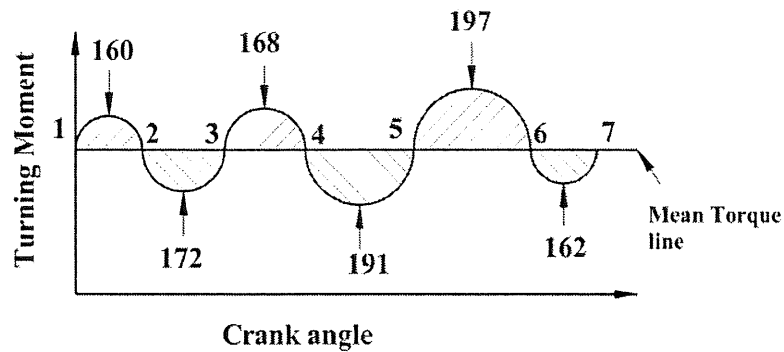

Figure 4
- a) A multi-cylinder engine is to run at a speed of 600 rev/min. Figure 4 shows the Turning Moment Diagram to a scale of 1 mm = 250 Nm and 1 mm = 3°, the areas above and below the mean torque line are: + 160 mm², - 172 mm², + 168 mm², - 191 mm², + 197 mm², - 162 mm² and given coefficient of speed, C_s is $\pm 1\%$. **Compute**